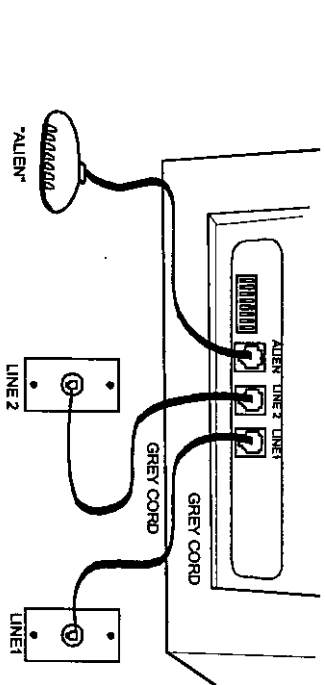

Figure 9. Internal Modem Connection
3. Plug one end of a gray telephone cord supplied with the modem into the LINE 1 jack on the back of the modem (Figure 9). Plug the other end of the cord into the telephone wall outlet for Line 1.